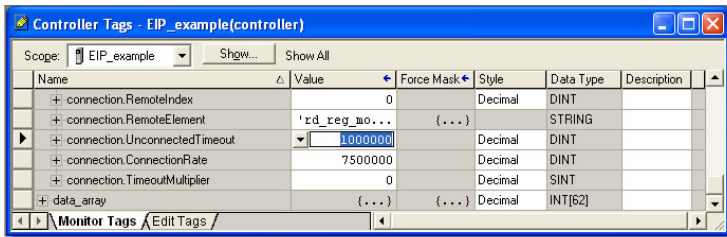

Figure 100: Reduce the UnconnectedTimeout Value
- e) Select the “Monitor Tags” tab. Expand the “connection” tag by clicking on the “+” sign next to the tag name. Scroll down to the connection.UnconnectedTimeout field and change its value from the default 30000000 (30s in 1uS increments) to 1000000 (1s). This value determines how long to wait before timing out and retransmitting a connection request if a connection failure occurs. Refer to Figure 100.